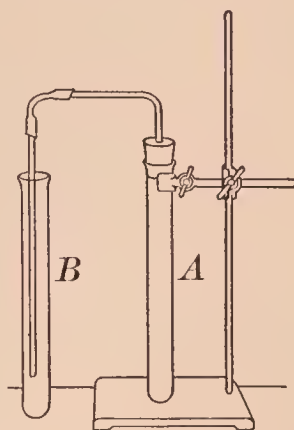

FIG. 56. — Apparatus for preparing hydrogen sulfide water
**APPARATUS.** — As in Fig. 56 for (d).
(d) Arrange an apparatus as in Fig. 56. Fill *B* half full of water. Put ferrous sulfide and dilute hydrochloric acid in the test tube *A* and let the gas bubble through the water in the test tube *B* for a few minutes. Use the solution in **Supplementary Exercise 38**. Cork tightly, unless it is to be used soon.